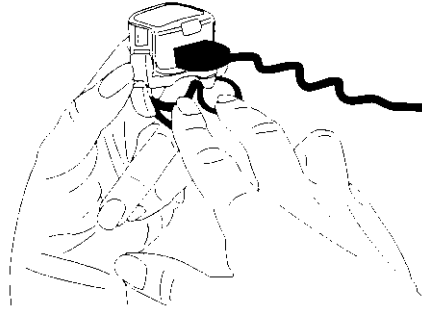

Figure 5-12. Sliding Ring Mount and Scanner Onto Finger
4. Slide the ring mount and ring scanner on your right or left index and middle fingers with the trigger next to your thumb (Figure 5-12).